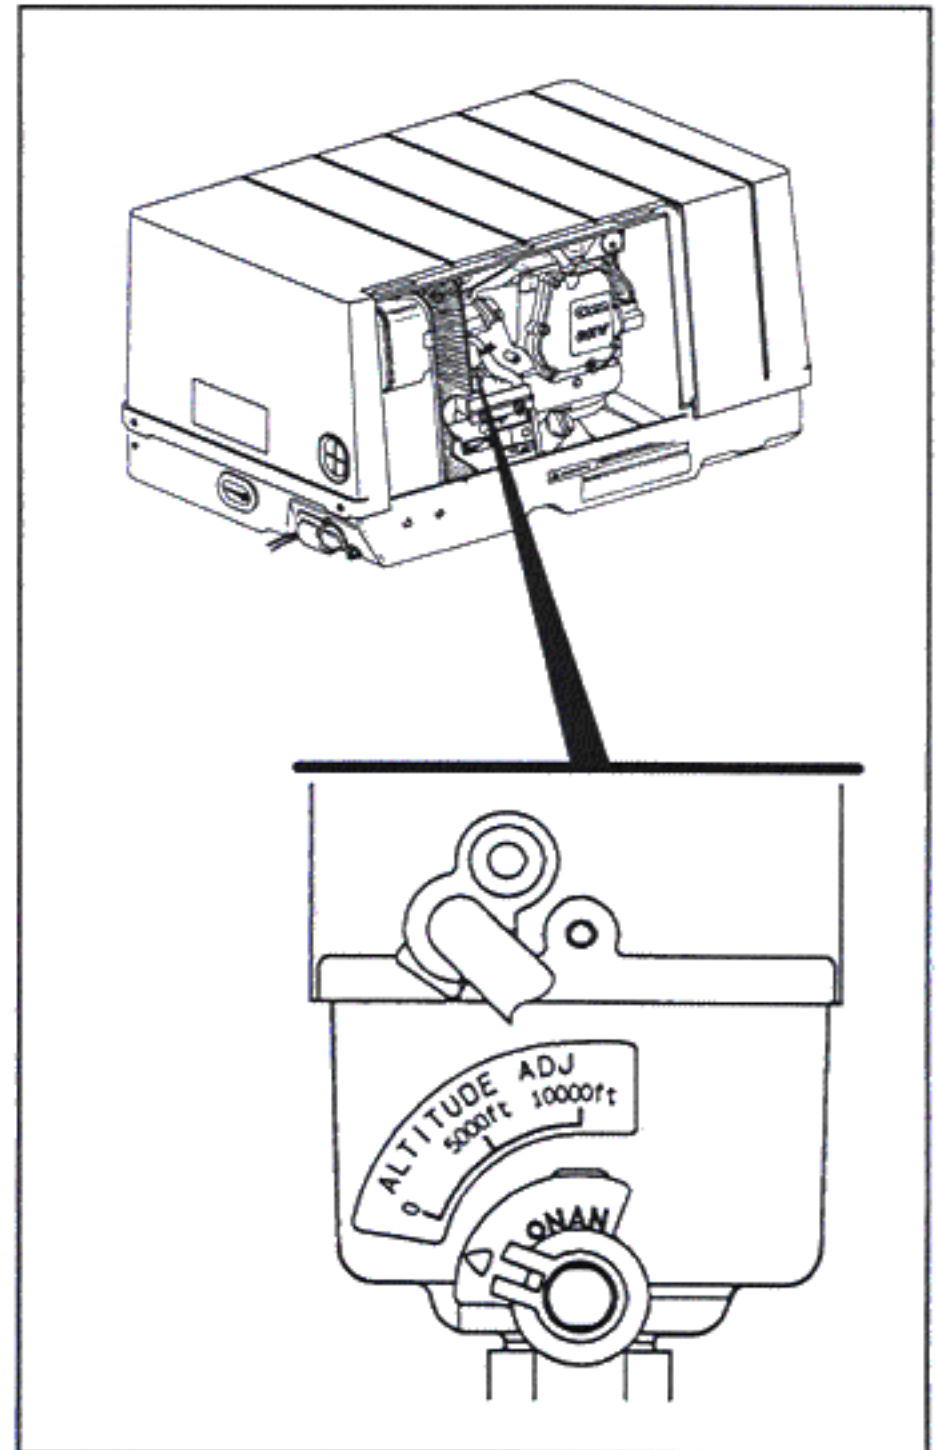

FIGURE 8. ALTITUDE ADJUST KNOB
2. Reset the carburetor for altitude (Figure 8).
5. Reset the carburetor for altitude (Figure 8).
Gasoline Models – For best fuel economy and genset operation reset the carburetor for the current altitude (Figure 8). Look at road maps and road signs. For the effect of altitude on maximum power, see LOADING THE GENSET (Page 9).